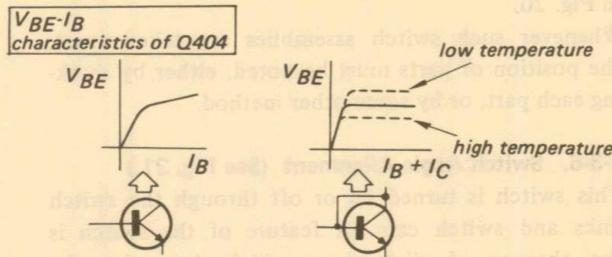

Fig. 10
- D401, Q403, Q404 and D402 form a thermally-compensated constant voltage circuit, which operates as follows (the voltages referred to here are relative to the B- voltage): D402 (EQB01-05) is a 5V zener diode which maintains the emitter of Q404 at +5V level. To obtain a flat base voltage (V_{BE}) from the collector of Q404, the base and collector are connected as shown in Fig. 10. The characteristics referring to this connection are also shown in Fig. 10.